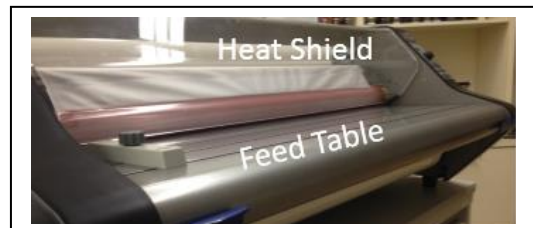

Figure 4
- C. **HEAT SHIELD:** (figure 4) Prevents inadvertent contact with the heat rollers. The HEAT SHIELD must be lowered for the RUN operation to work.
- D. **FEED TABLE:** (figure 4) The Feed Table is used to position items for lamination. Feed table must be closed and latched for laminator to operate.